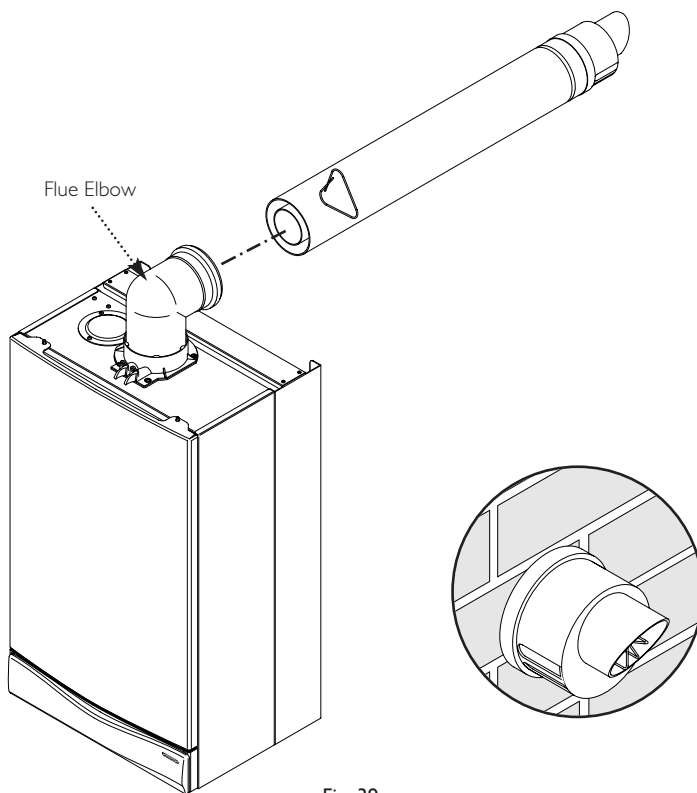

Fig. 39
9. Draw the flue back through the wall and engage it in the elbow. It may be necessary to use soap solution or similar to ease assembly of the elbow adaptor and flue (Fig. 39).